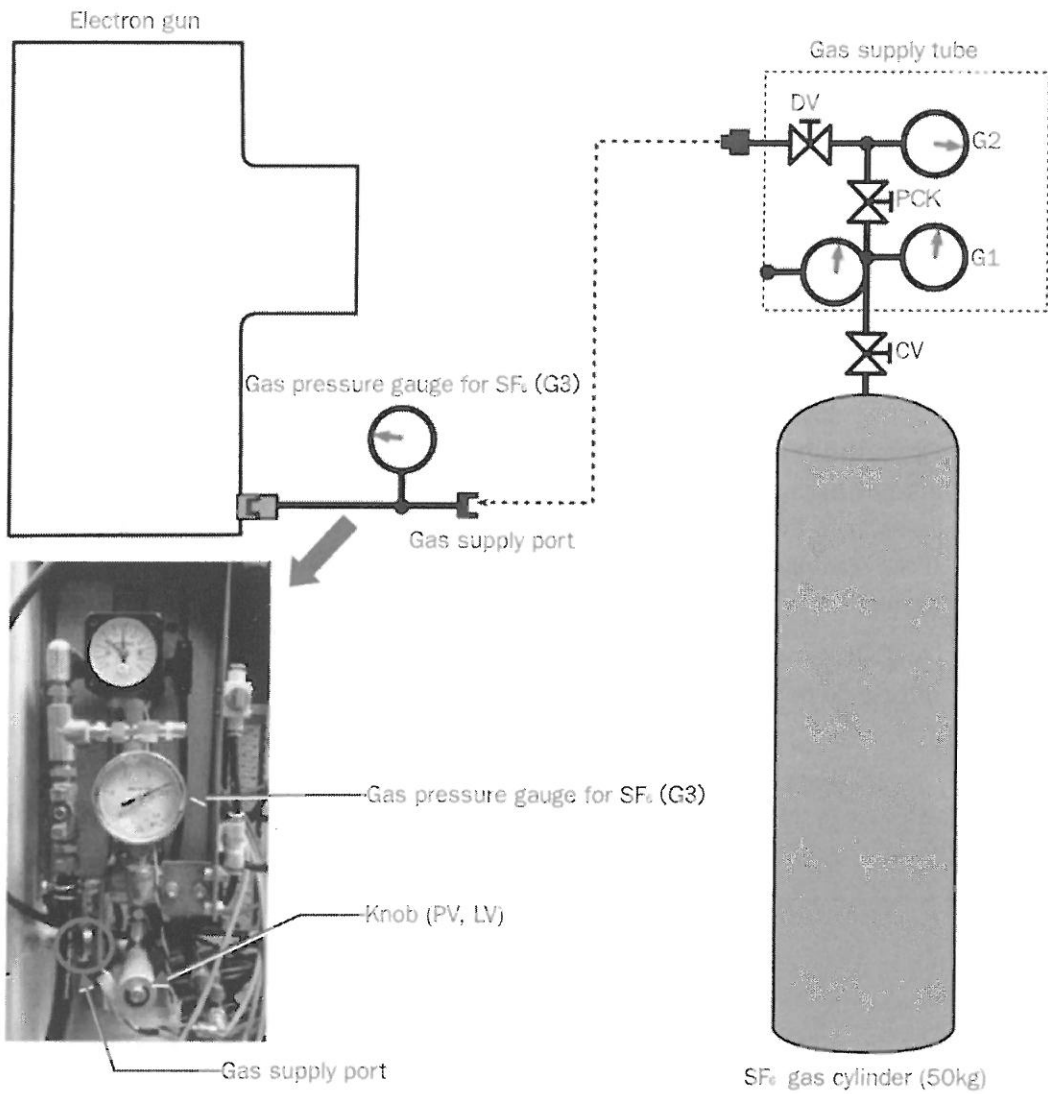

Fig. 6.10 Diagram of the SF₆ gas supply system to electron gun gas chamber
If the reading of the gas pressure gauge for the Gun (Fig. 6.10) decreases to 0.3 MPa or less, refill the electron gun chamber with SF₆ gas following the procedure below.
2. Connect the gas supply port (Fig. 6.10) to the SF₆ gas cylinder using a hose (with a quick coupling).